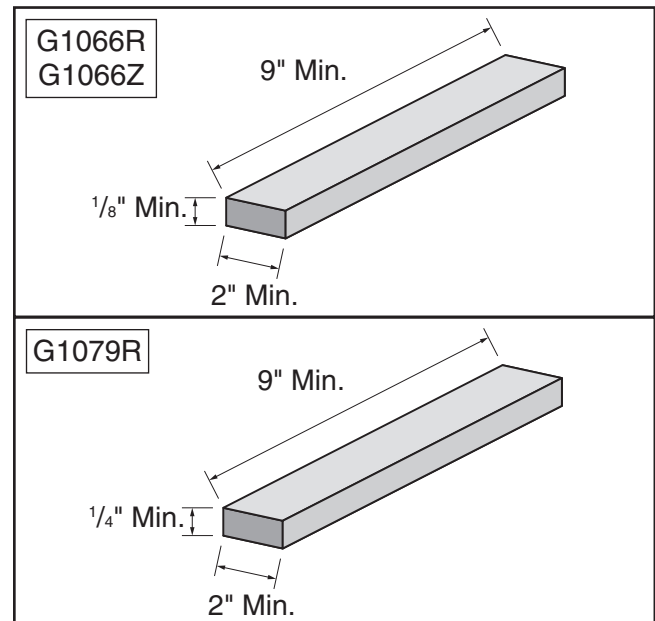

Figure 22. Minimum dimensions for sanding.
- **Minimum Stock Dimensions:** DO NOT sand boards less than 9" long, 2" wide, and 1/8" thick (G1066R/G1066Z) or 1/4" thick (G1079R) to prevent damage to the workpiece and to reduce the risk of your hands contacting the abrasive belt (see **Figure 22**).